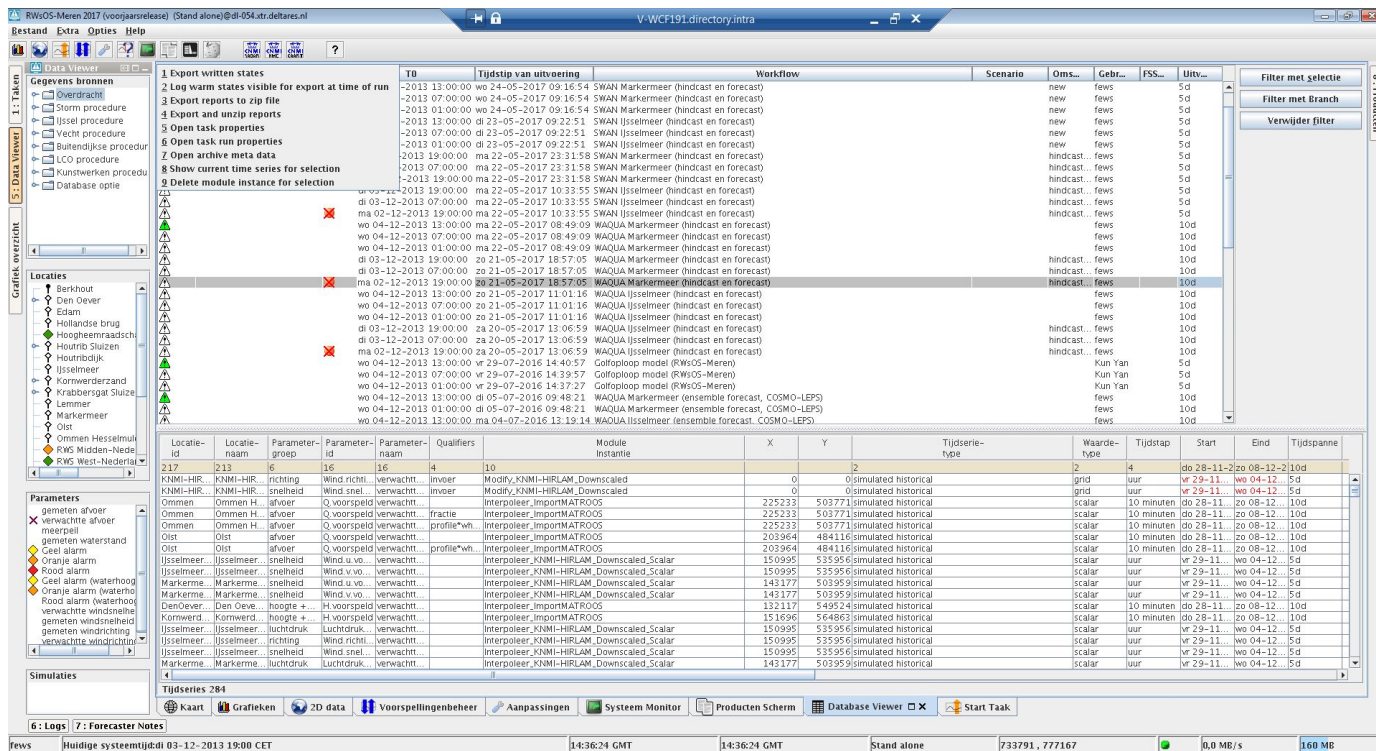

figure 7: F12 menu in Database Viewer
1. In Database Viewer, select one workflow, press F12, a menu will pop out (figure 7).